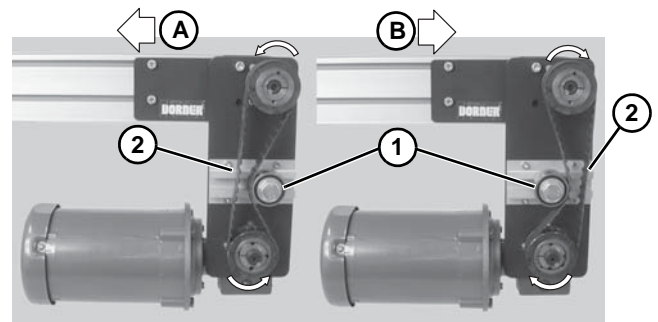

Figure 21
5. Depending on conveyor belt travel (direction A or B), locate timing belt tensioner (Figure 21, item 1) as shown. Tension timing belt to obtain 1/8" (3 mm) deflection for 6 lb (3 Kg) of force at timing belt midpoint (Figure 21, item 2). Tighten tensioner screw to 110 in-lb (12 Nm).